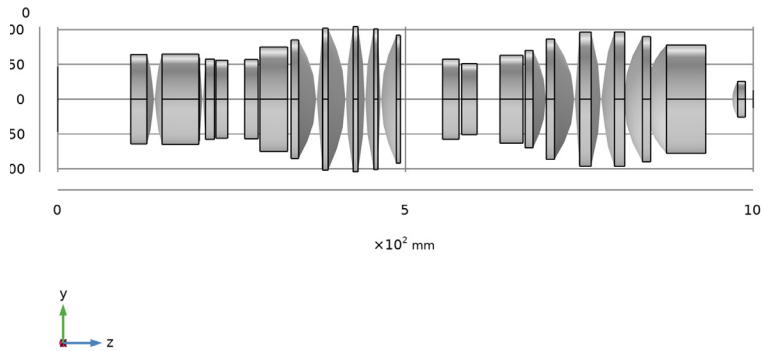

Figure 1: Microlithography lens geometry sequence. The rays propagate from left to right.
When constructing a geometry in COMSOL to be used in a Geometrical Optics ray trace, it is important to appreciate that the order in which optical elements are placed in a geometry sequence does not affect the results of the trace. However, it is convenient to place optical elements relative to one another. This can be achieved by taking one of the built-in work planes in a Part Instance as the reference for the placement of the next Part Instance. The resulting lens geometry sequence is shown in Figure 1. Detailed instructions for creating the geometry can be found in Appendix — Geometry Instructions.
- 9 In the **Graphics** window toolbar, click  next to  **Go to Default View**, then choose **Go to ZY View**. This will orient the view to place the optical axis (z -axis) horizontal and the y -axis vertical. Compare the resulting geometry to Figure 1.